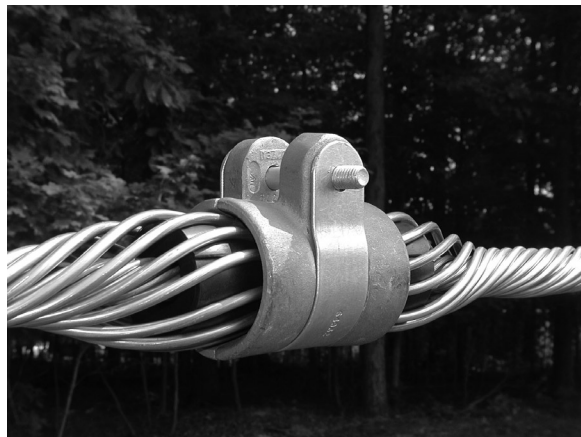

FIGURE 26: BOLT SLIDES THROUGH STRAP AND HOUSINGS - CONNECTION TO STRUCTURE NOT SHOWN
4.09 Slide the bolt into position through the strap, housing halves and fittings or structure interface. (Figure 26)